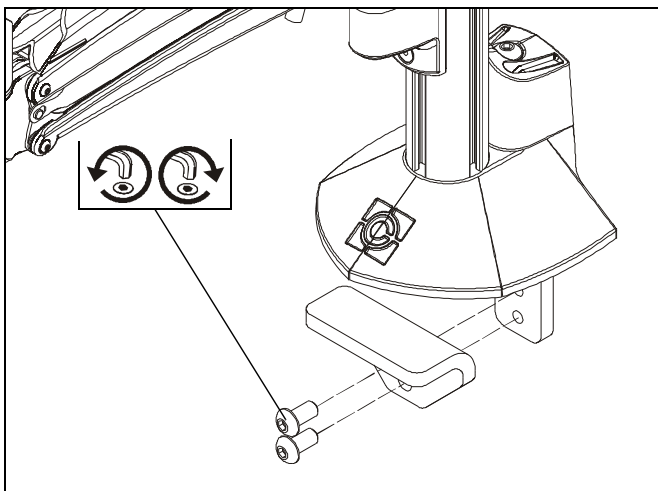

Figure 2
**NOTE:** If space is limited behind desk (i.e. against wall, etc.), remove lower piece of clamp and two screws holding it to the mount and reattach parts prior to Step 3! (See Figure 2)